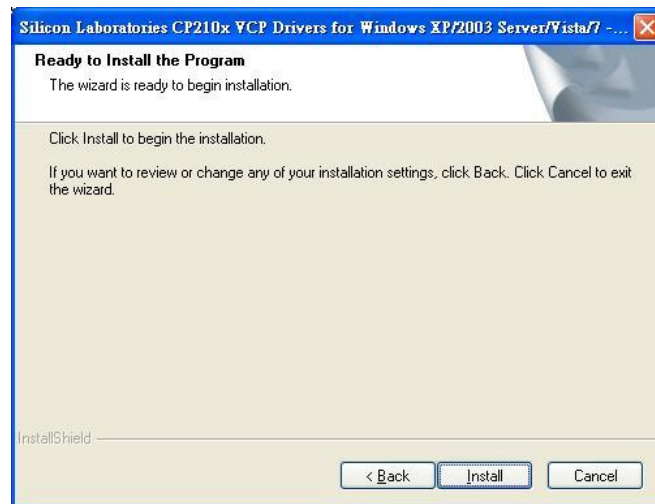

Figure 4-5: Ready to Install the Driver
Step 6: Click **Next** and the InstallShield Wizard is ready to install the driver (**Figure 4-5**).